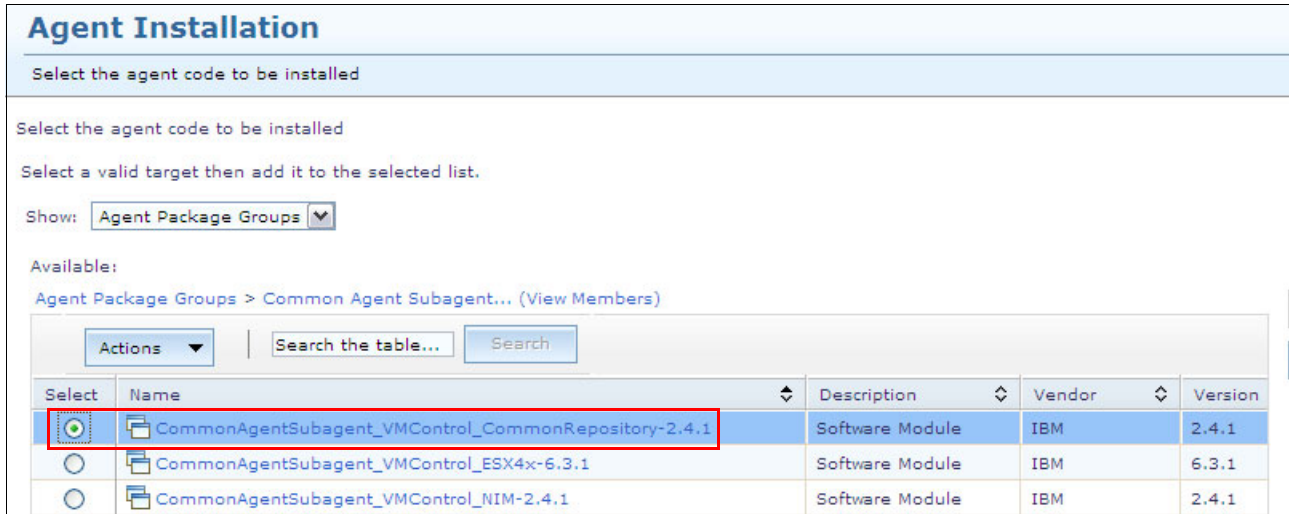

Figure 10-87 Selecting the agent
2. Select **CommonAgentSubagent_VMControl_CommonRepository-2.4.1** as shown in Figure 10-87.